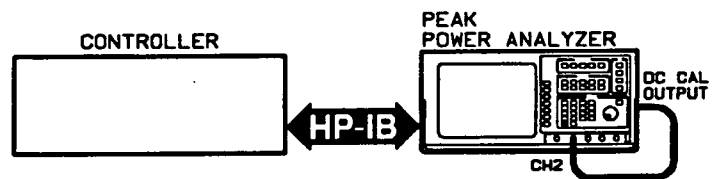

Figure 2-11. Channel 2 Vertical Calibration Setup
4. Connect the equipment as described on the screen and shown in figure 2-11.